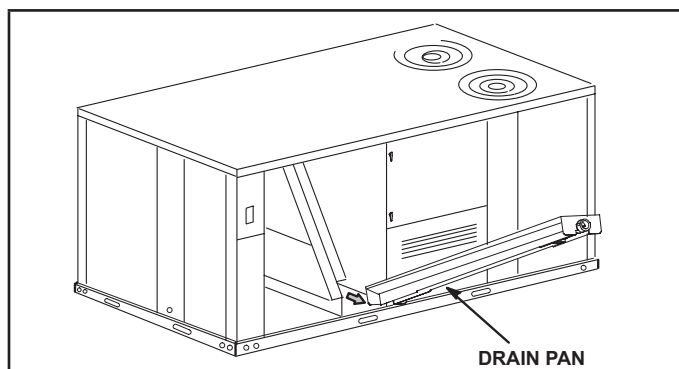

FIGURE 6
- 4 - Lift front edge of the drain pan (to clear bottom drain plug) and slide drain pan out of unit. See FIGURE 6.
- 2 - Remove six screws from filter access door. Refer to FIGURE 6.